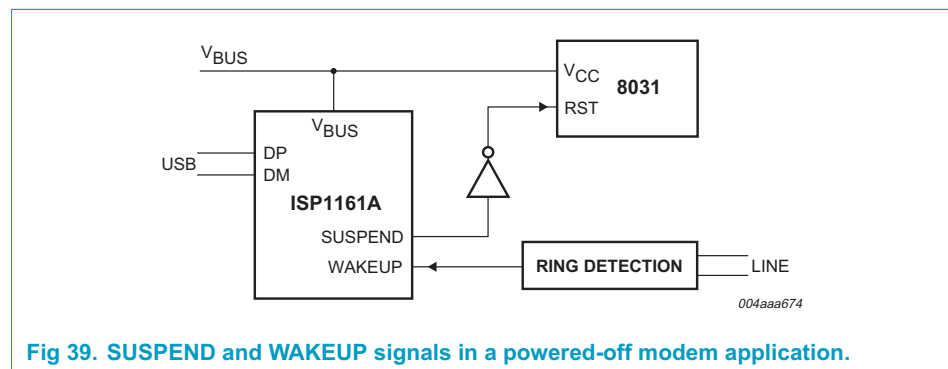

Fig 39. SUSPEND and WAKEUP signals in a powered-off modem application.
**Powered-off application:** **Figure 39** shows a typical bus-powered modem application using the ISP1161A. The SUSPEND output switches off power to the microcontroller and other external circuits during the suspend state. The ISP1161A DC is woken up through the USB bus (global resume) or by the ring detection circuit on the telephone line.